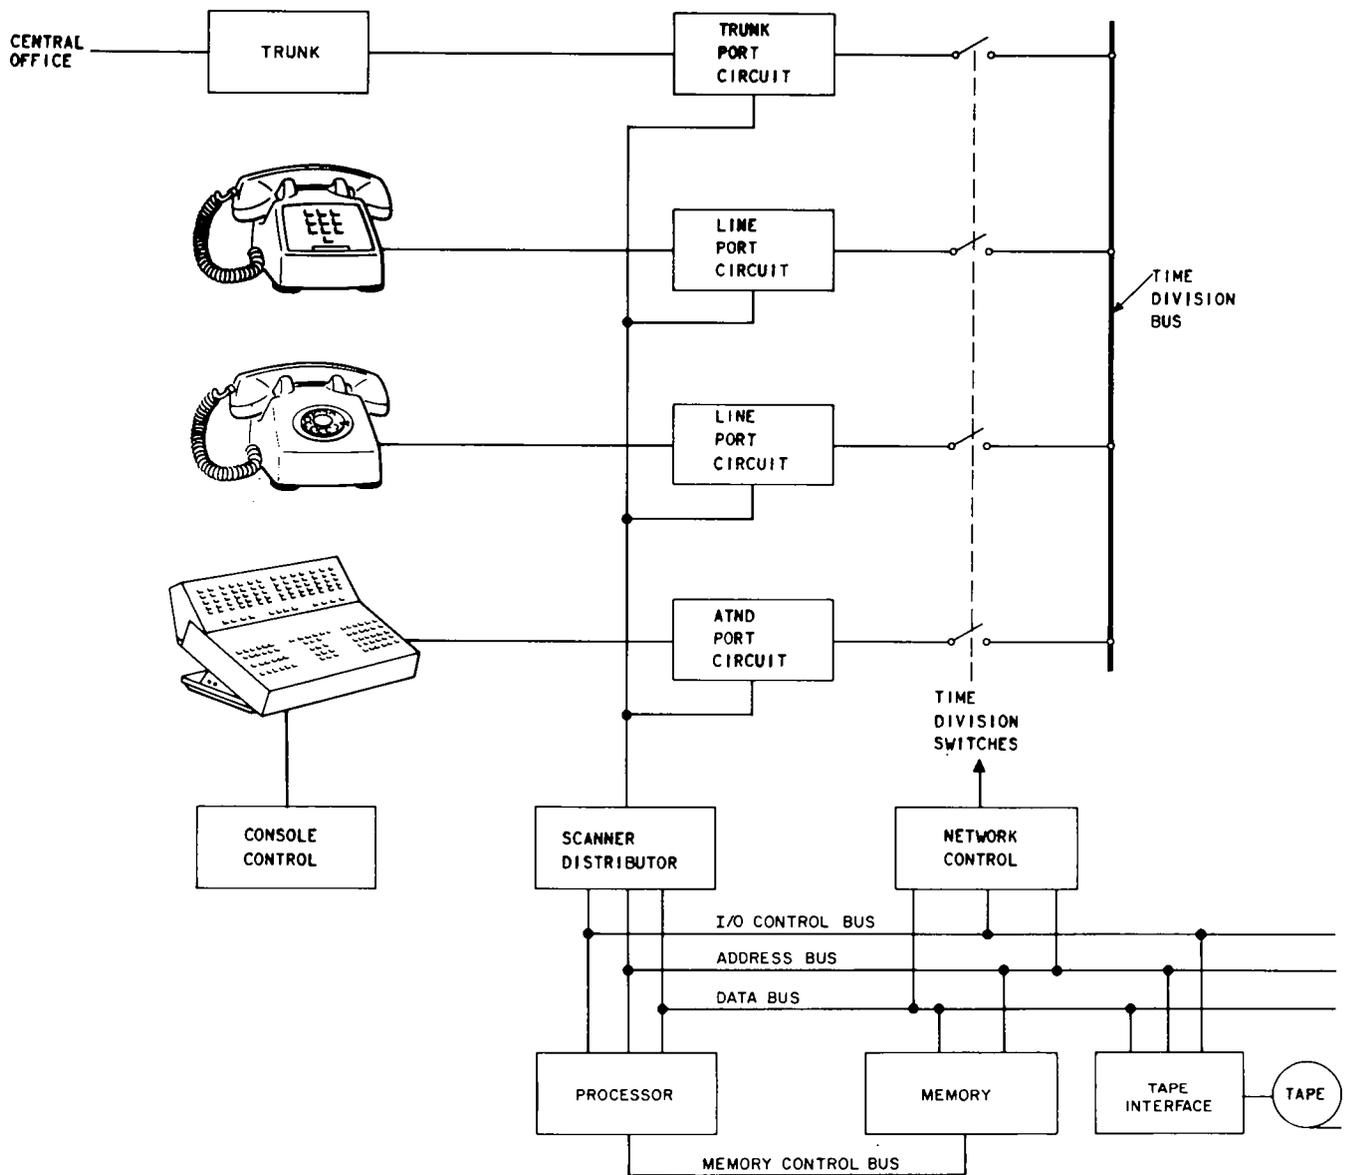

Fig. 2—Time Division Switching—Functional Block Diagram
2.10 The DIMENSION PRELUDE PBX uses time division switching (Fig. 2) which involves sampling signals at the port circuits, summing the sampled signals in a central amplifier, and distributing the signals to the port circuits. The sampled signals charge an input capacitor at each port circuit
2.11 Each port circuit (line, trunk, attendant interface, etc) contains a time slot memory (shift register) and a time division switch. The basic time division network includes a port circuit and a common bus wired to each port circuit with associated amplifiers and control circuits (Fig. 2).